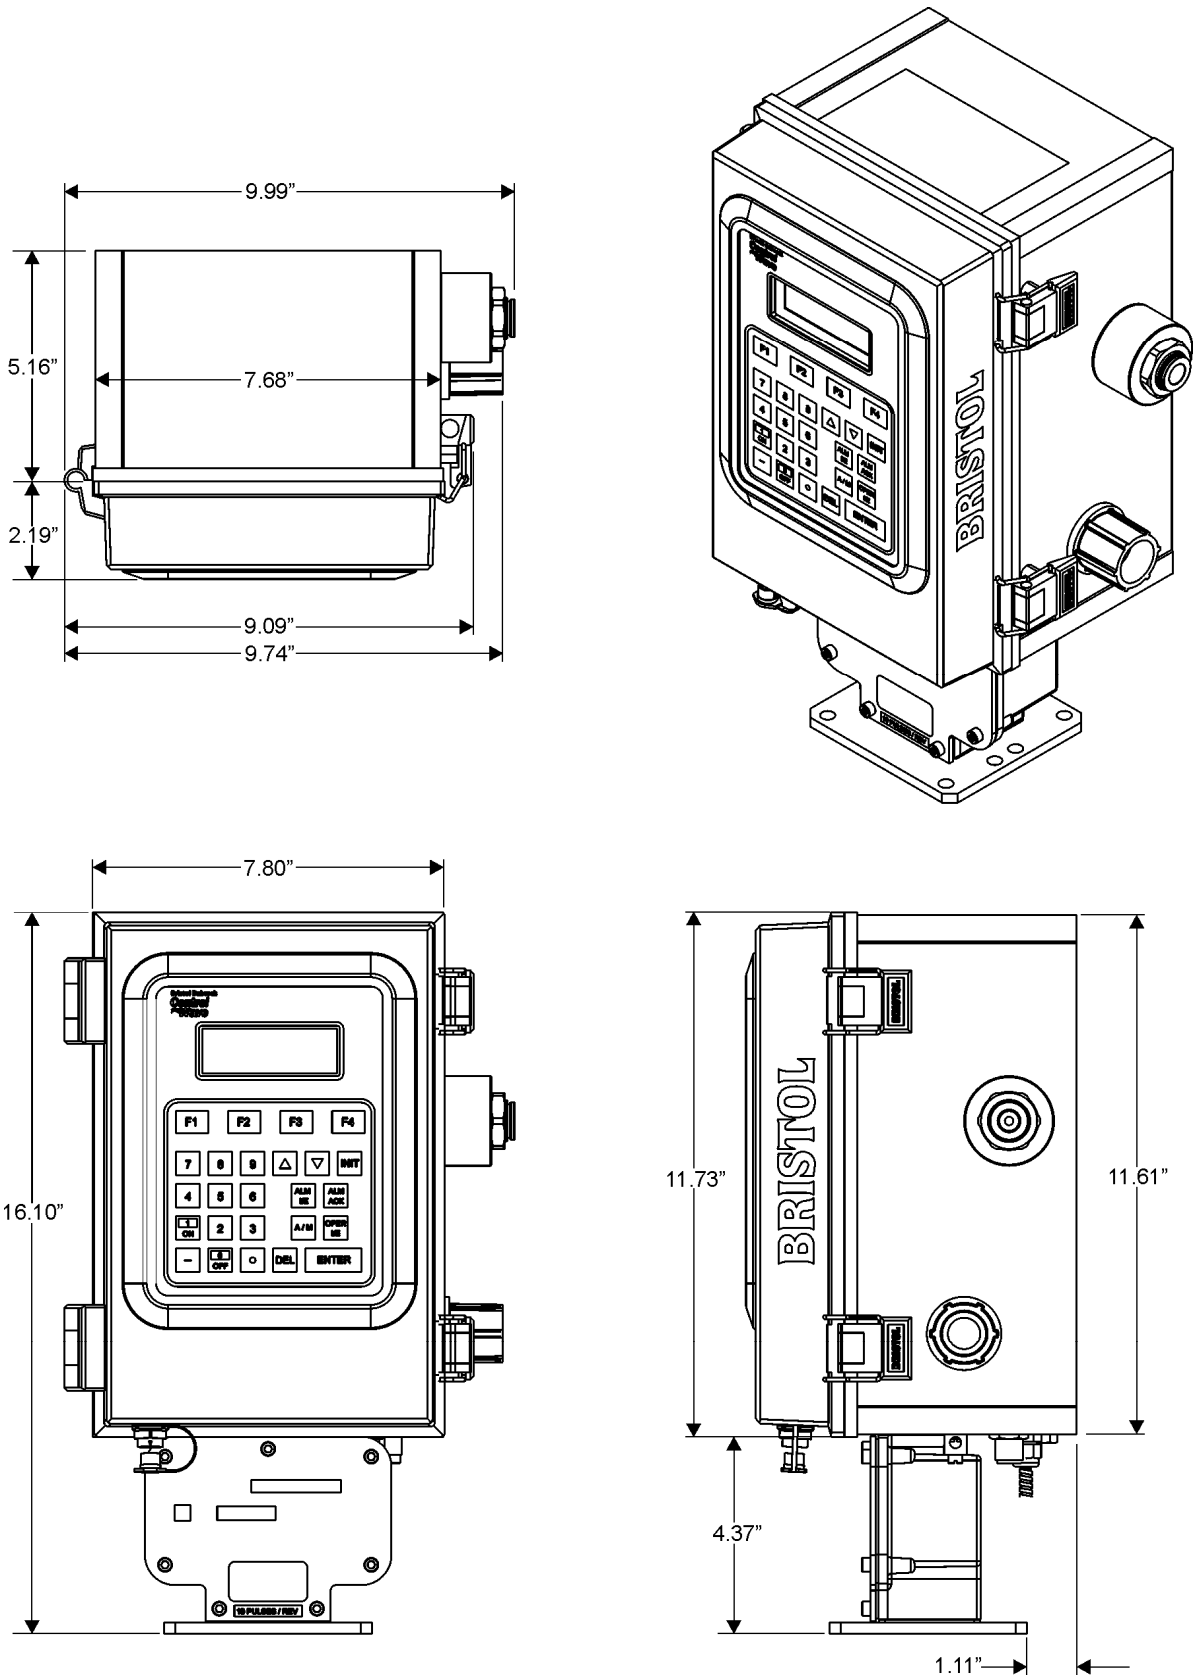
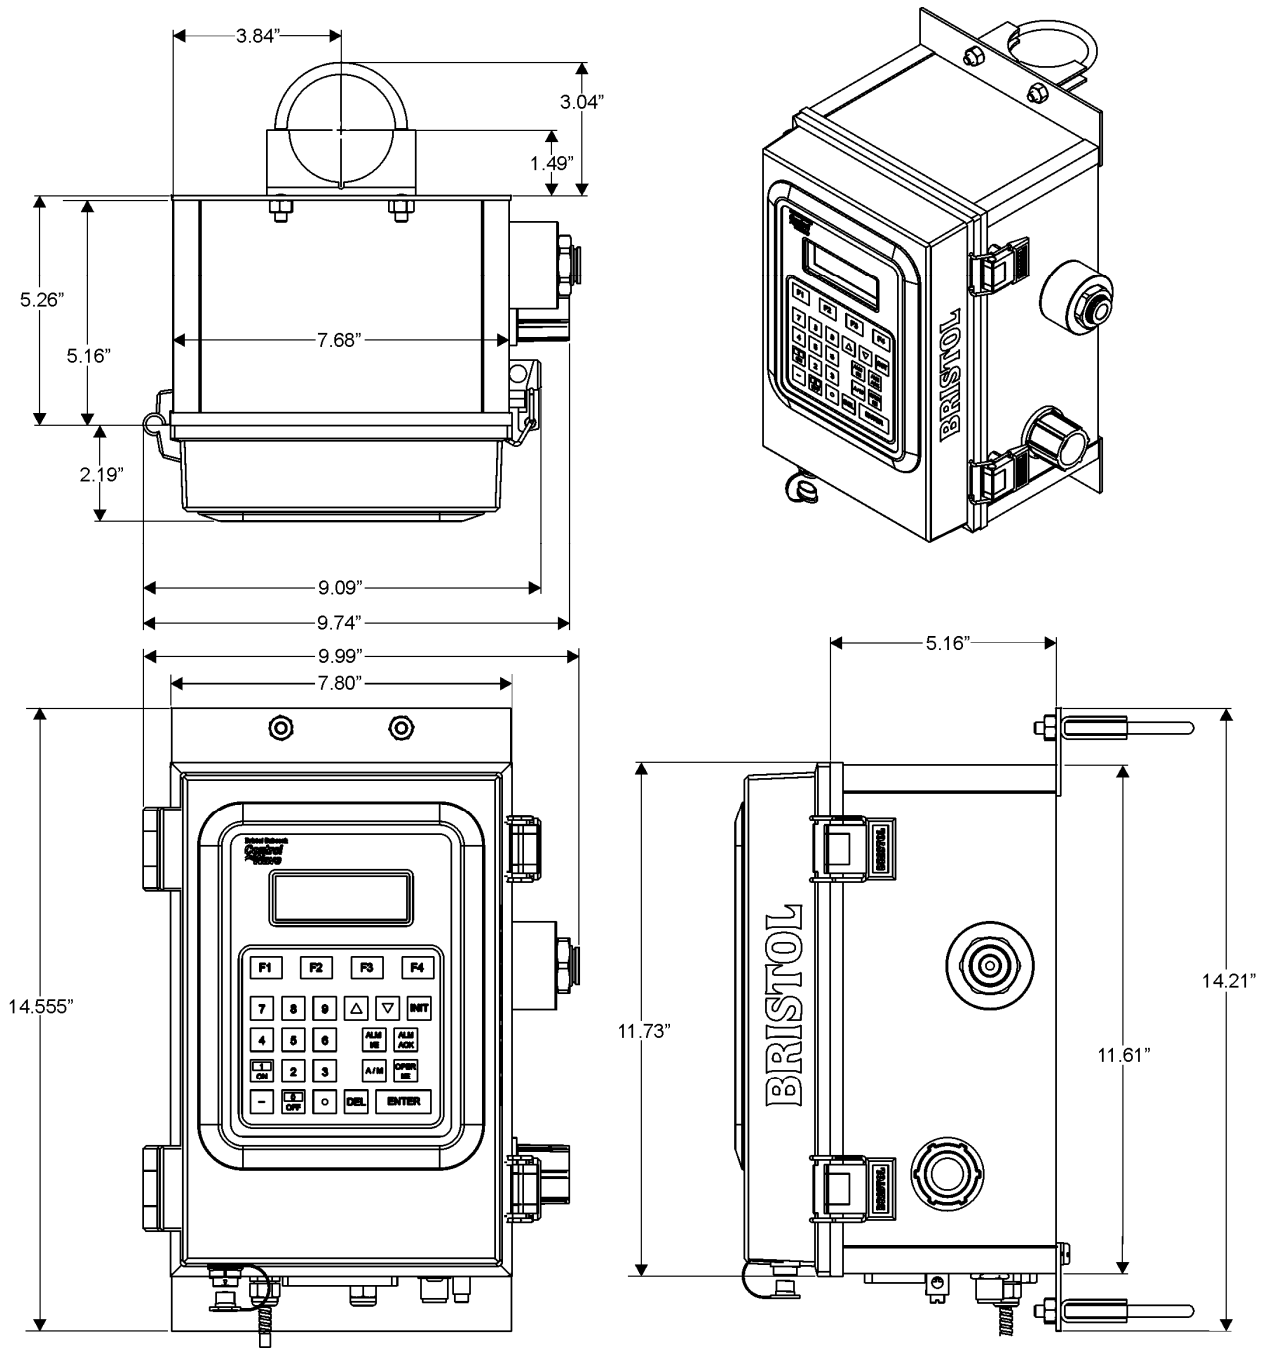

Figure 2-9. ControlWave Corrector (with TeleCounter & GPT) - NEMA 3R Enclosure Dimensions
Figure 2-10. ControlWave Corrector (with GPT - without TeleCounter) NEMA 3R Enclosure Dimensions
- See *Figure 2-9* for a dimensional drawing of the NEMA 3R enclosure with a GPT and TeleCounter. See *Figure 2-10* for a dimensional drawing of the NEMA 3R enclosure with a GPT and no TeleCounter.